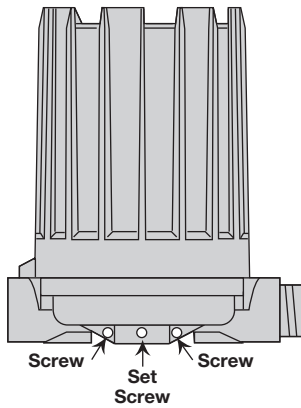

Figure 4
1. Loosen set screw(s) at base of switch housing. Refer to Figure 4.